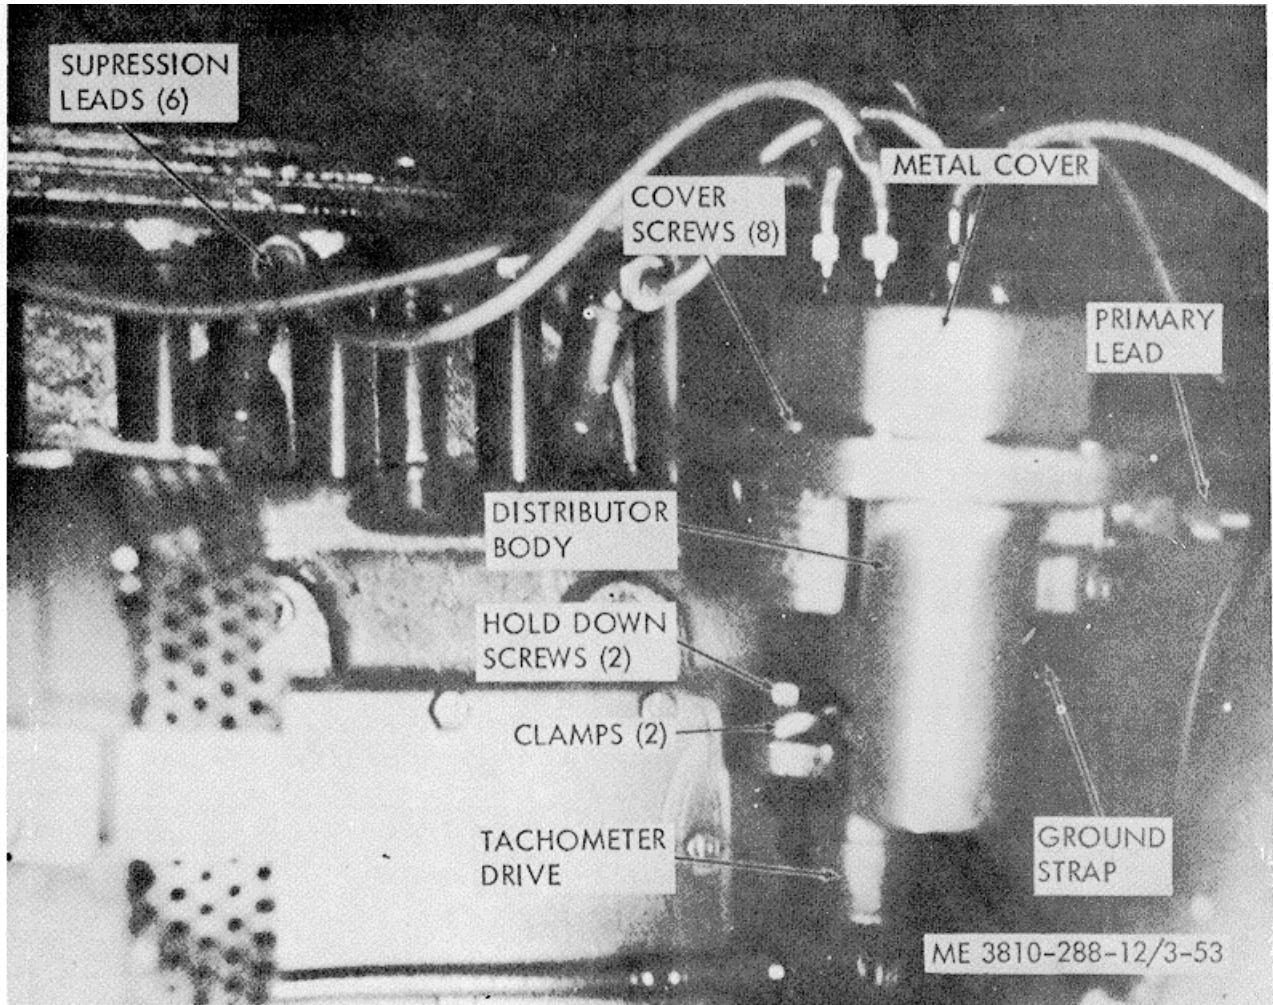

Figure 3-53. Distributor (ignitor), removal and replacement.
tact at the breaker points. To assure accurate timing, make up a simple light circuit consisting of a 24 volt automotive light bulb with soldered-on leads or a socket with leads attached as shown in figure 3-54. Clip one lead to the lead to the movable breaker point, and attach the other lead to ground. Turn the engine to TDC on the compression stroke for number one cylinder as shown in figure 3-41. Turn the ignition switch to the ON position. Rotate the distributor body (fig. 3-53) slightly to determine the point of breaker point opening, which will be the point where the light turns on. Tighten the hold down screws at the base of the distributor, making sure the body does not turn further.
(a) Refer to figure 3-53 and remove the cover screws and metal cover from the distributor. Tag and disconnect the primary leads from the coil.
(a) Refer to figure 3-53 and remove the cover screws and metal cover from the distributor. Tag and disconnect the primary leads from the coil (fig. 3-54). Press the coil out of the distributor body carefully.
(a) Remove metal cover (fig. 3-53). Refer to figure 3-54 and lift off rotor.
gap as described in this paragraph. Reinstall the cover (fig. 3-53).
(1) *Removal.* Refer to figure 3-53 for a view of the suppression leads. These leads are from the distributor (ignitor) to the spark plugs. The leads are removed by unscrewing them at the distributor and the individual spark plugs.